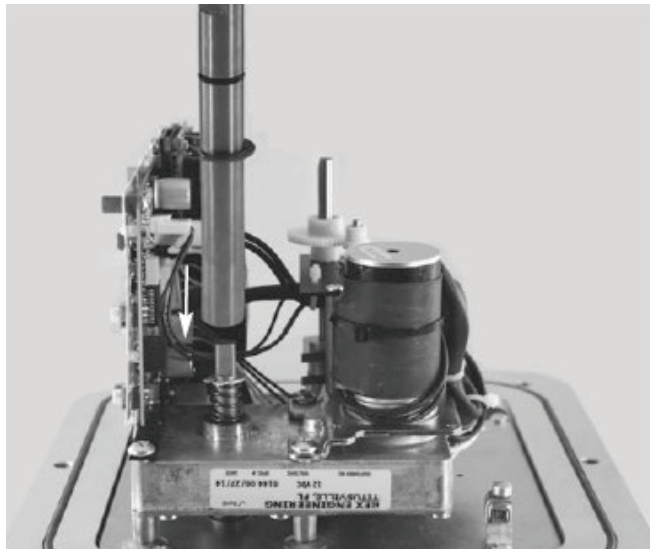

Figure 39.
- 4.41 Once the actuator is calibrated and set for the application you need to re-install the cover. Locate and remove the override shaft from the cover, and install it on the square shaft of the motor (if actuator is equipped with a handwheel override, place the bottom half of the two-piece shaft on the motor, and then the top half onto the bottom half before installing cover), see Figure 39.